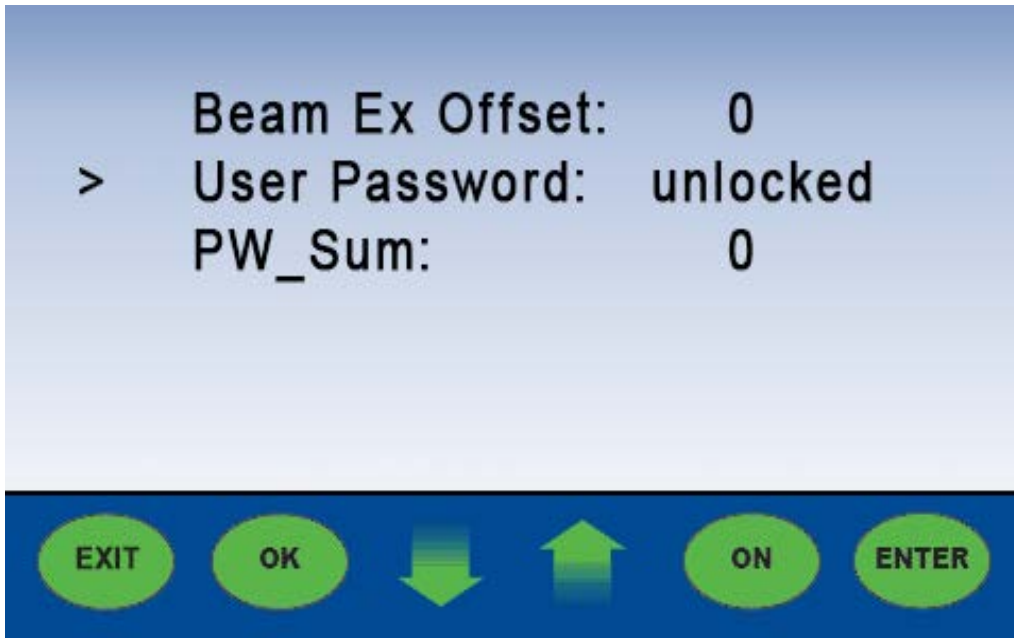

Figure 71
5. Press the **up arrow** to set the last digit for the password. Next, press the **enter button** to input the new password. Now, return to **“User Password: Unlocked”** on the main screen menu list (**Figure 71 on page 122**).